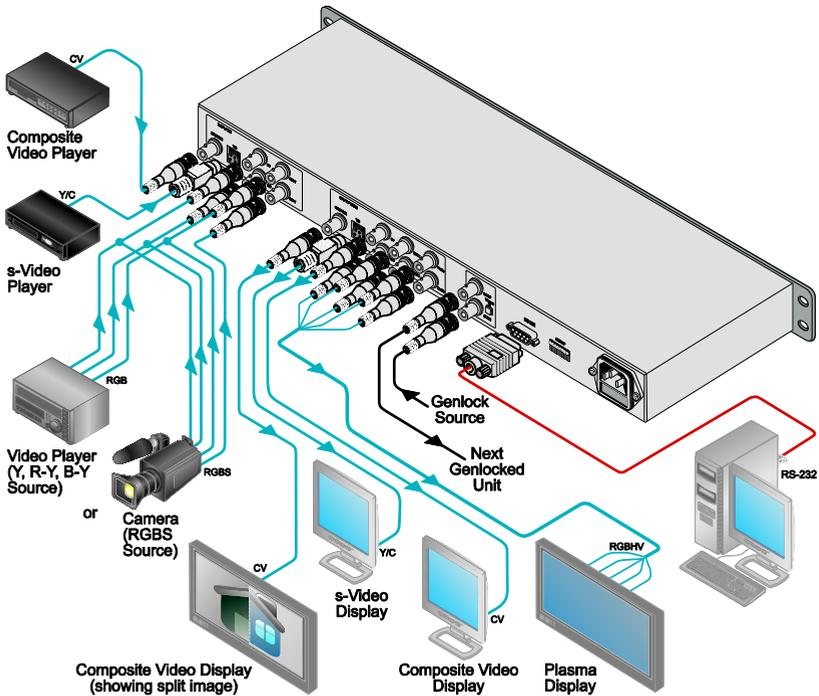

Figure 2: Connecting the SP-10D Digital Video Processor
8. Connect the power cord⁴ (not illustrated in Figure 2).